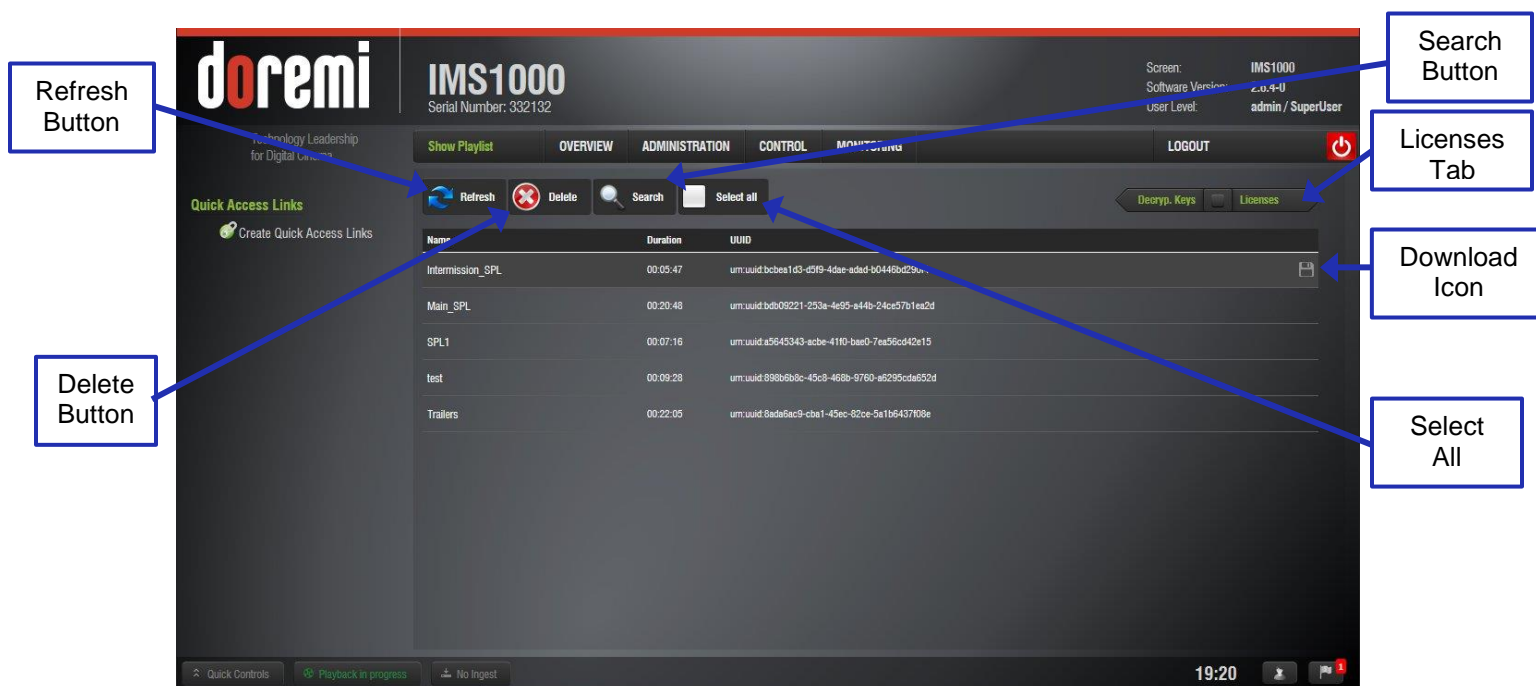

Figure 302: Show Playlist Tab
- This page displays all the SPLs available on the unit together with the following information (Figure 302):
To see an updated view of the tab will all available SPLs, click on the Refresh button. To search for a specific KDM, click on the Search button. To select or unselect all of the SPLs, click the Select All button (Figure 302).
- Select a SPL from the list and click the Delete button (Figure 302).
Highlighting a SPL will reveal the Download icon on the right hand side (Figure 302). This allows the user to download the SPL onto a computer and to view the CPLs in the SPL.
To access the Licenses tab, click on the green arrow on the right hand side of the GUI in the Show Playlist and Overview tabs (Figure 302).